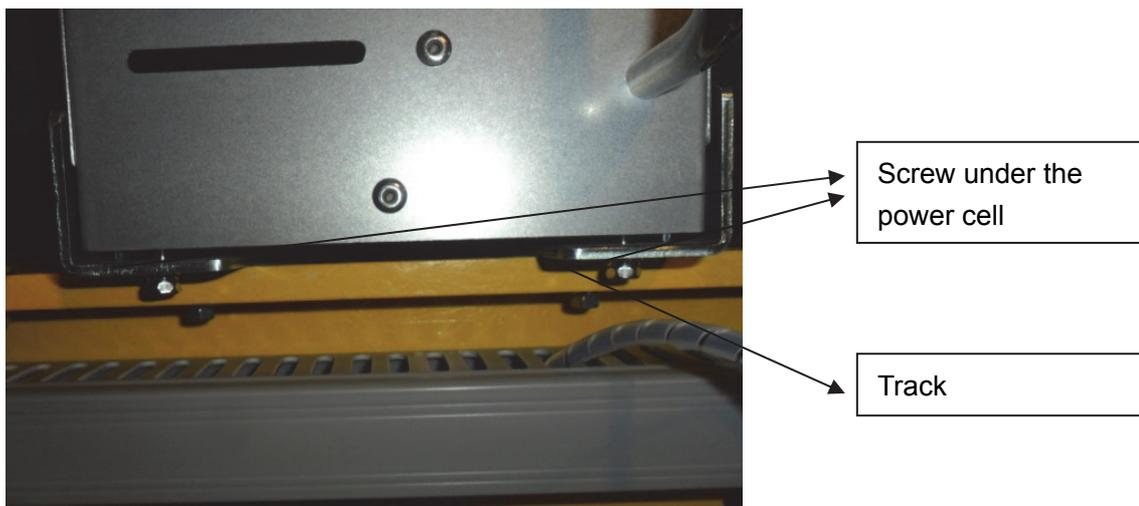

Fig. 10-16 Power cell replacement schematic diagram_2
- Use M8 torque wrench to unscrew the screw under the power cell. Save the screws carefully. Pull the power cell along the track and save the power cell carefully (Fig10-16).